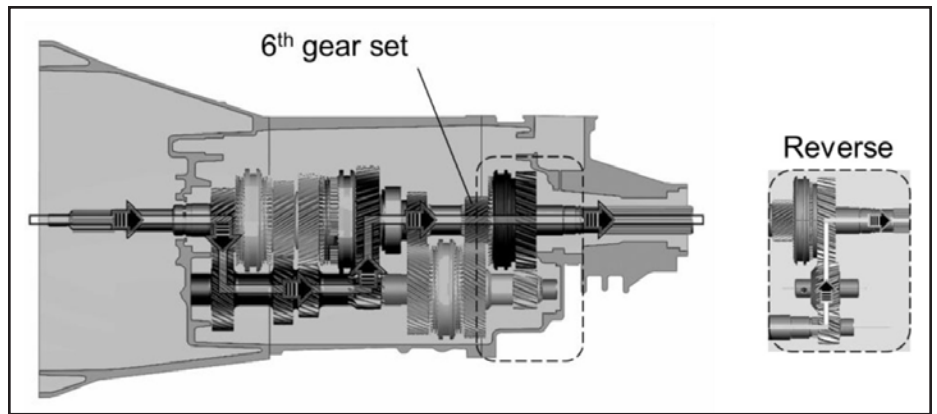

Figure 2 Pick-up truck transmission.
**Case Study: pickup truck 6-speed transmission.** As a case study the Monte Carlo model of backlash calculation was implemented into an *Excel* spreadsheet to determine the actual backlash range of a pickup truck transmission with six forward speeds (Fig. 2).
**Figure 2** Worm gearbox efficiency vs. sliding velocity (m/s) for different lead angles: a) historical data (Ref. 4); b) AGMA 6034-B92 (Ref. 5) on current worm speed reducer (Ref. 1).